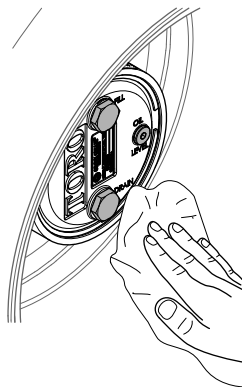

Figure 70
3. Wipe clean the planetary and brake housings (Figure 70).